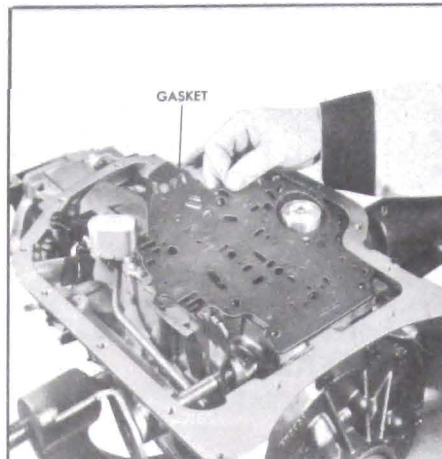

Figure 5-721
1. Install control valve to spacer gasket. See Figure 5-721.